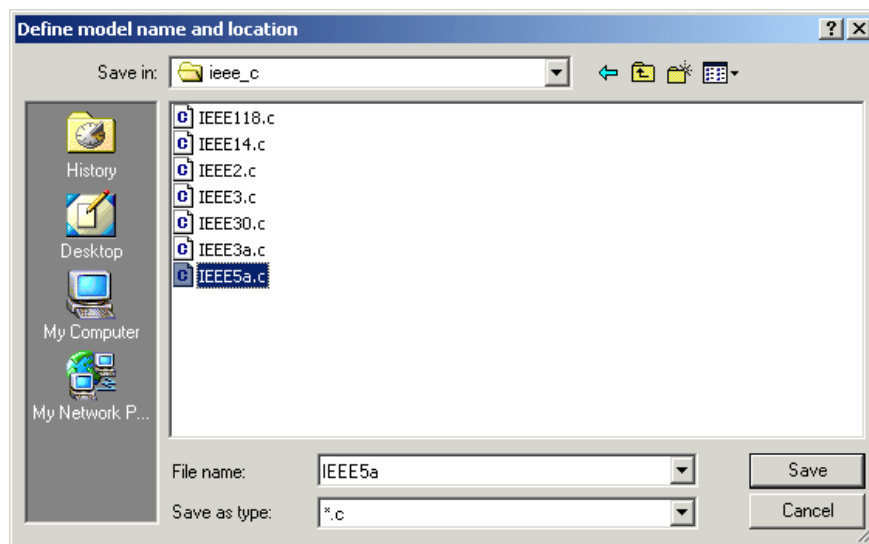

Fig. A.14 The Build dialog box
- This will activate the dialog box shown in Fig. A.14.